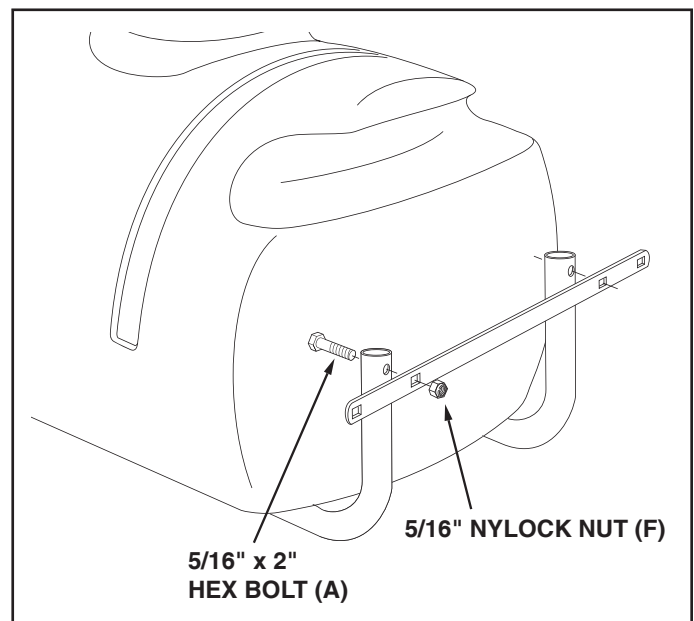

FIGURE 5
STEP 5: (SEE FIGURE 5)
- Assemble the boom mount bracket to the rear of the frame tubes using two 5/16" x 2" hex bolts (A) and 5/16" nylock nuts (F).